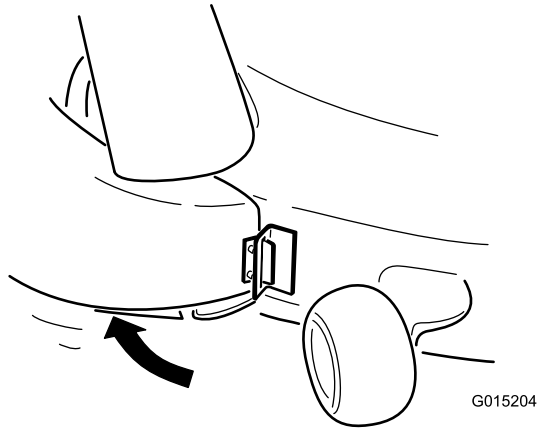
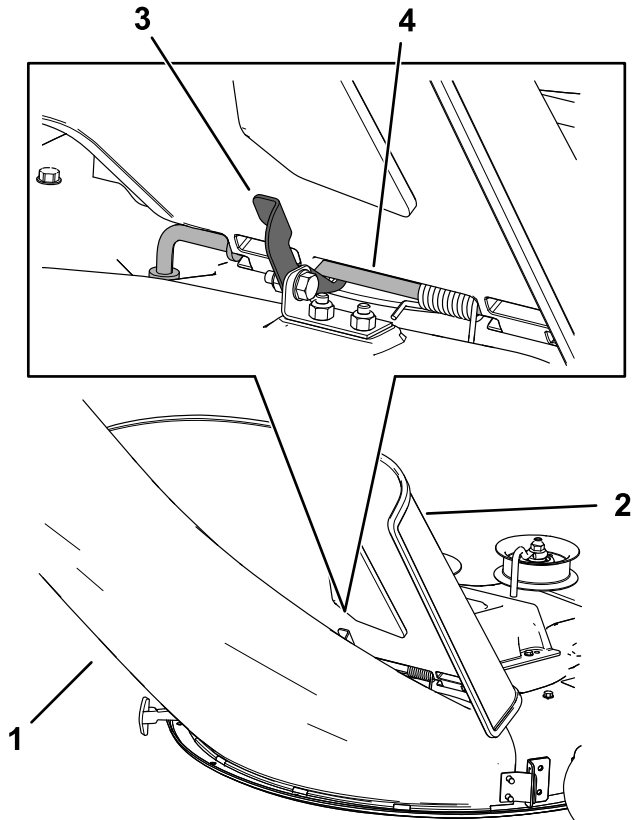

Figure 15
Figure 16
- On the top of the chute, engage the hook-shaped latch around the pivot rod of the deflector assembly (Figure 15 and Figure 16).